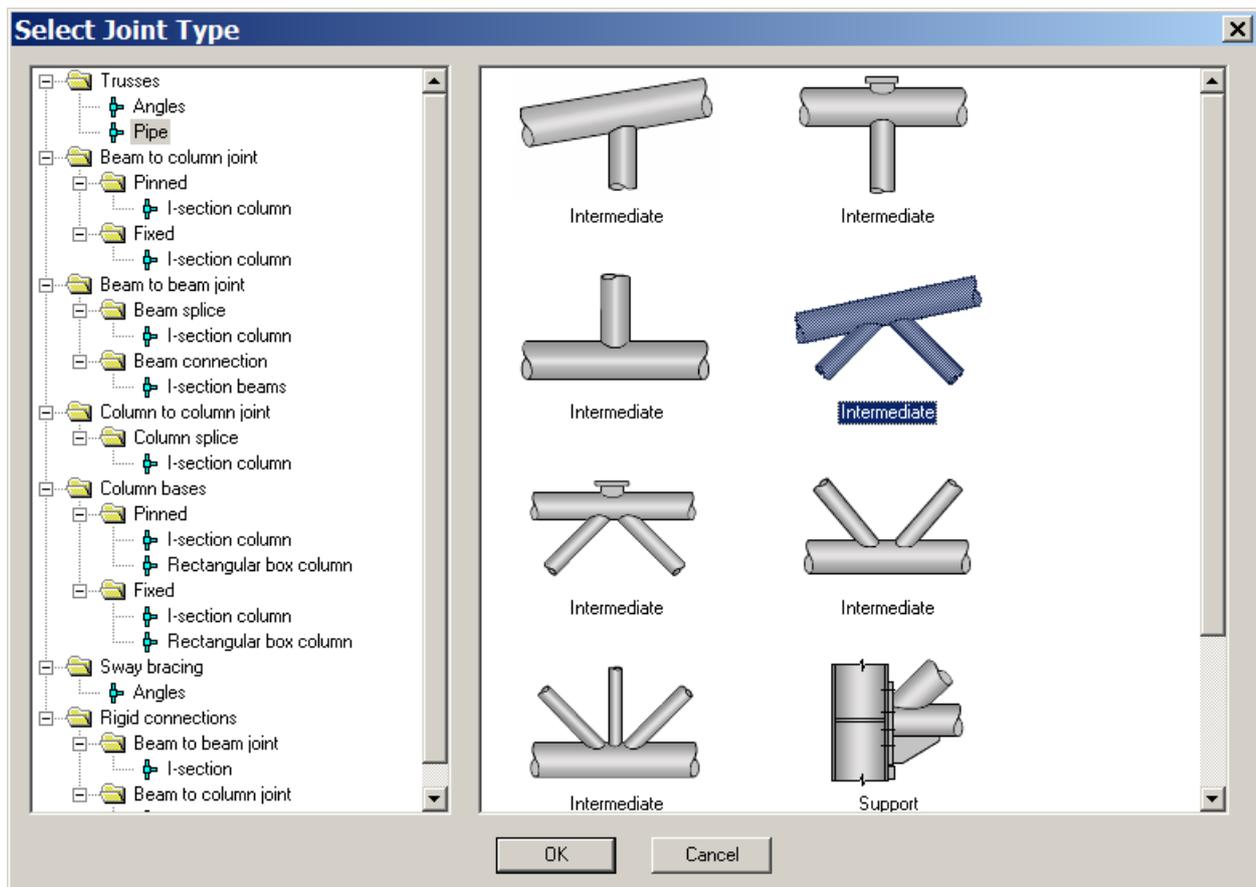

Figure 12.3. **Select joint type** dialog box
- ⇒ In the **Select joint type** dialog box (see Fig.12.3), select **Trusses / Pipes** in the list and then select the type of joint as presented in the figure.